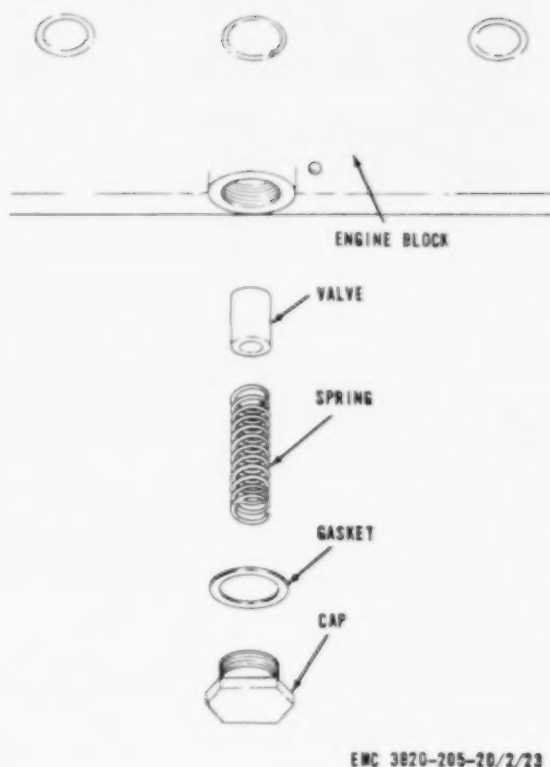

Figure 24. Oil cooler bypass valve, removal and installation.
a. Removal and Disassembly. Remove and disassemble the oil cooler bypass valve as illustrated on figure 24.
c. Reassembly and Installation. Reassemble and install the oil cooler bypass valve illustrated on figure 24.